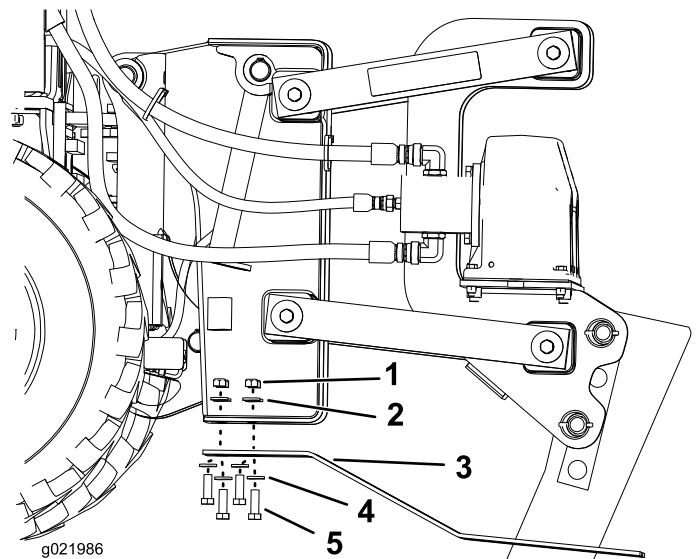

Figure 12
3. Remove the 4 bolts, 4 nuts, and 8 washers from the skid shoes (Figure 12).
4. Install the new skid shoes and secure them with the previously removed hardware (Figure 12).